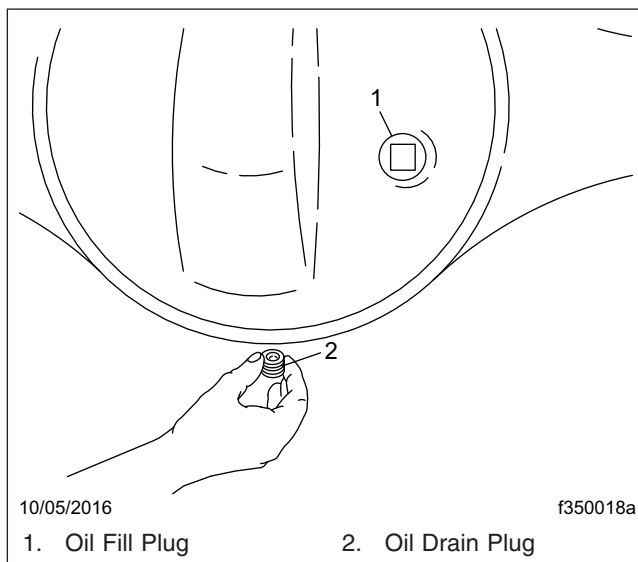

Fig. 4, Axle Housing Drain and Fill Plugs
2. Clean the fill plug and the area around it. In the axle housing rear cover, remove the plug from the oil fill hole (or standpipe, if installed in the oil fill hole). See **Fig. 4**.
3. Place a drain pan under the rear axle drain plug. See **Fig. 4**. Drain the oil at normal operating temperature, 150°F to 200°F (65°C to 93°C). At this temperature, the oil will run more freely and ensure that the axle is flushed.